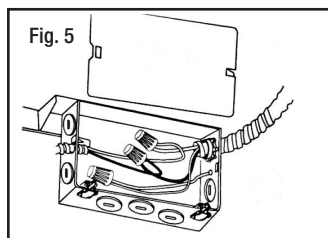

Fig. 5
Metal conduit: Remove appropriate round knock-out(s) and connect conduit to wiring box with proper connector(s) (not included) (Fig. 5).
Step 3. Connect supply wires to wires in fixture wiring box with proper size wire nuts (not included) or push wires into "push-in" connectors (included on select models). Be sure to cover all bare current carrying conductors. Connect white to white; black to black; and green or bare copper wire (from electrical service) to bare copper wire (in wiring box)(Fig. 5).